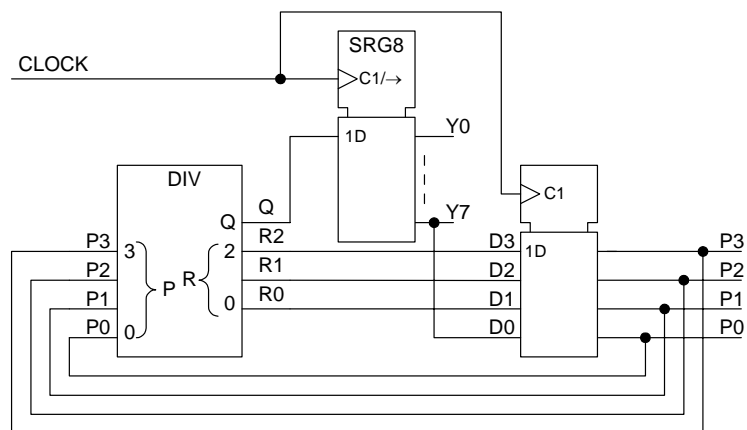

Figure 4.2
- (b) *Figure 4.2* shows a circuit that combines the “DIV” module of part (a) with a 4-bit register and an 8-bit shift register whose outputs shift in the direction  $Y0 \rightarrow Y1 \rightarrow \dots \rightarrow Y7$ . If  $p_n$  and  $y_n$  represents the values of  $p$  and  $y$  after the  $n^{\text{th}}$  clock pulse, give algebraic expressions for  $p_{n+1}$  and  $y_{n+1}$  in terms of  $p_n$  and  $y_n$  for each of the four cases [6]